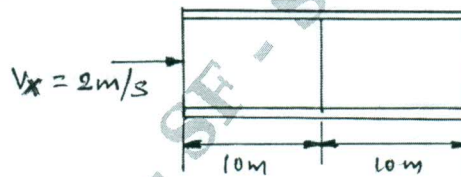

Fig.Q8(a)
- 8 a. For the smooth pipe shown in Fig.Q8(a) with uniform cross-section of 1m^2 , determine the flow velocities at the centre and right end, knowing the velocity at the left is $V_x = 2\text{m/sec}$. (10 Marks)